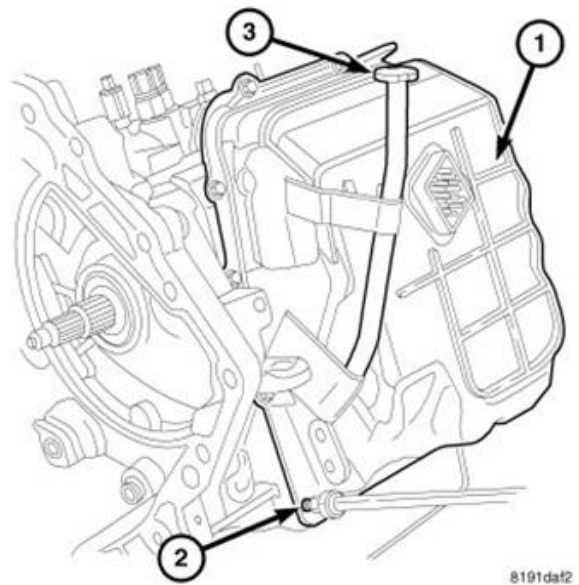

Figure 12 – Valve Body Oil Pan
20. Remove the fasteners (2) securing the valve body oil pan (1) (Figure 12).